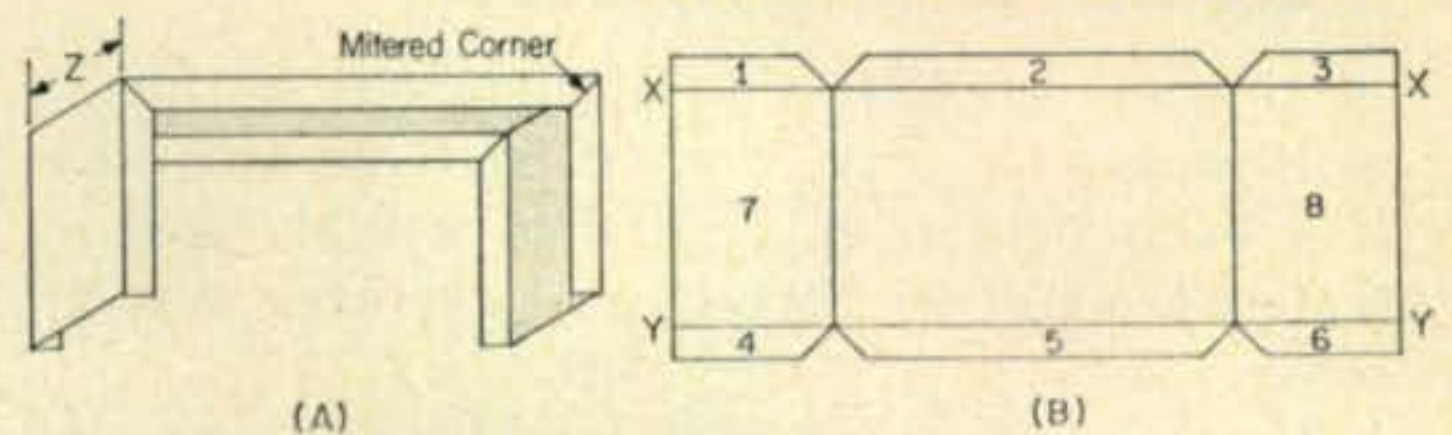

Fig. 5—Bending sequence details. See text.
An example is shown in fig. 5. Suppose a piece of material is to be formed as shown at (A). It should be cut and marked as shown at (B). First, sides 1, 2 and 3 should be folded over in one operation along line X-X. Next, sides 4, 5 and 6 should be handled likewise along line Y-Y. This will result in a uniform dimension Z on all sides of the completed piece. Sides 7 and 8 should be folded over last, using the inside-bend technique
Fig. 5—Dimensions made in reference to a center point X. Dimensions a and c are obtained with a rule, dividers or compass from the component. They may then be centered about point X using dimensions b and d which are one-half of a and c respectively. The vertical dimensions may be worked out similarly. The curved lines are marked using compass or dividers; the straight lines are those made using a rule. Component mounting holes are indicated at M.
made from a reference center, using a straight rule, compass or dividers as in fig. 5. Screw holes for fastening tube sockets are more conveniently marked and drilled after the socket hole itself has been made. The socket is first inserted on its hole, and then used as a template for locating